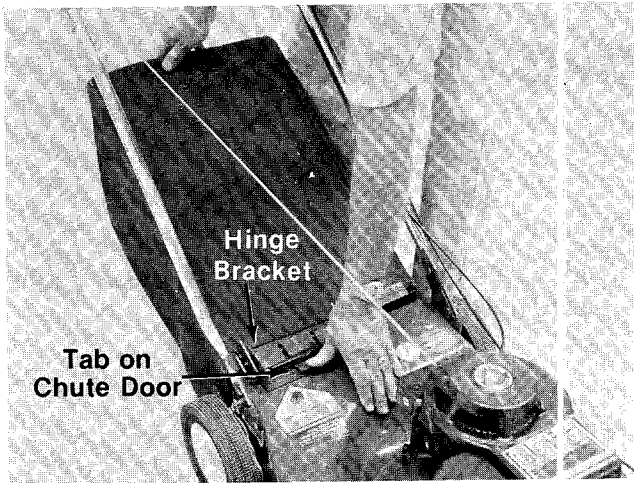

FIGURE 12.
3. Push the tab on the chute door. The grass catcher frame will snap into place, secured by the chute door. See figure 12.
← To remove the grass catcher, press the tab on the chute door and slip the grass catcher off the unit. See figure 12.